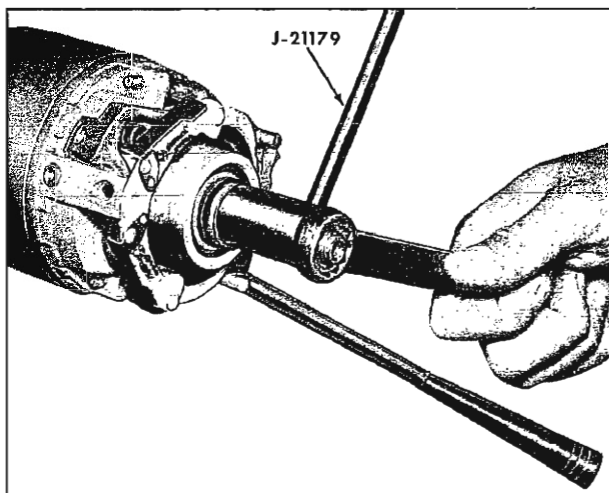

Fig. 9-17 Seating Spacer
24. Install the steering wheel nut and turn down until window (cut-out) in tool J-21179 is in line with upper edge of snap ring groove (.002") (Fig. 9-17).